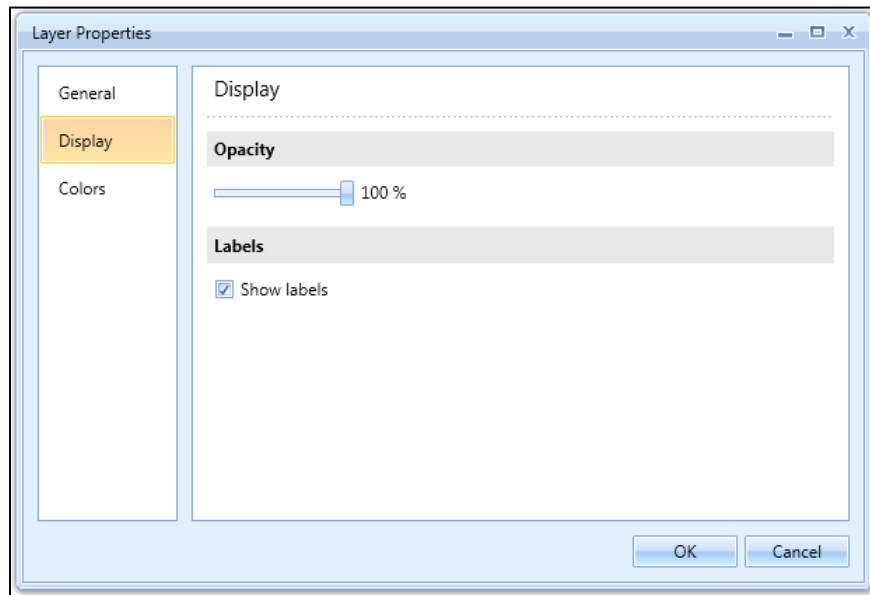

Figure 3-17 Layer Properties Dialog – Display
4. Click *Display* (Figure 3-17).